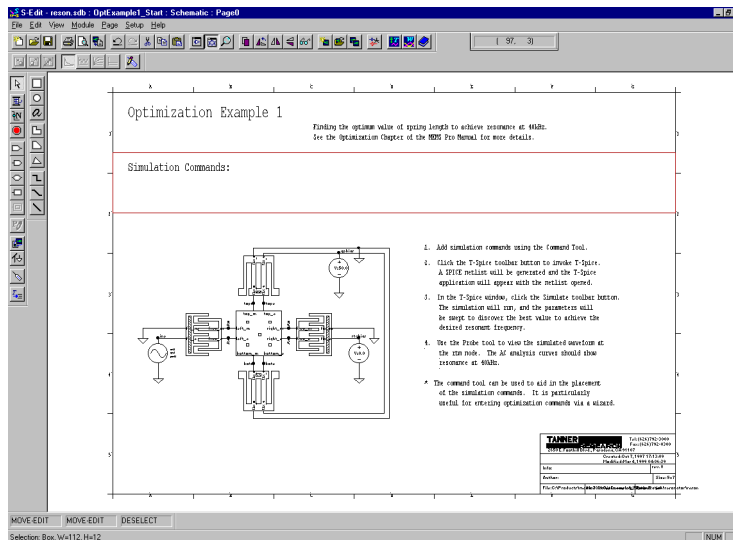

Figure 88: Viewing the resonator in S-Edit
- ☑ To open the tutorial, select **File > Open** and choose the file called **<install directory>\Examples\optimize\resonator\reson.sdb**. The schematic appears in the S-Edit window (Figure 88).